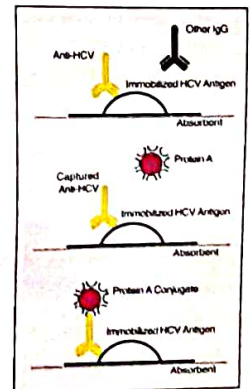

Fig. 4 Principle of the Assay
1. HCV antigens are immobilized on a porous immunofiltration membrane. Sample and the reagents pass through the membrane and are absorbed into the underlying absorbent pad (Fig. 4).
2. As the patient's sample passes through the membrane, HCV antibodies if present in serum/plasma, bind to the Immobilized antigens. In the subsequent washing step, unbound serum/plasma proteins are removed (Fig. 4).